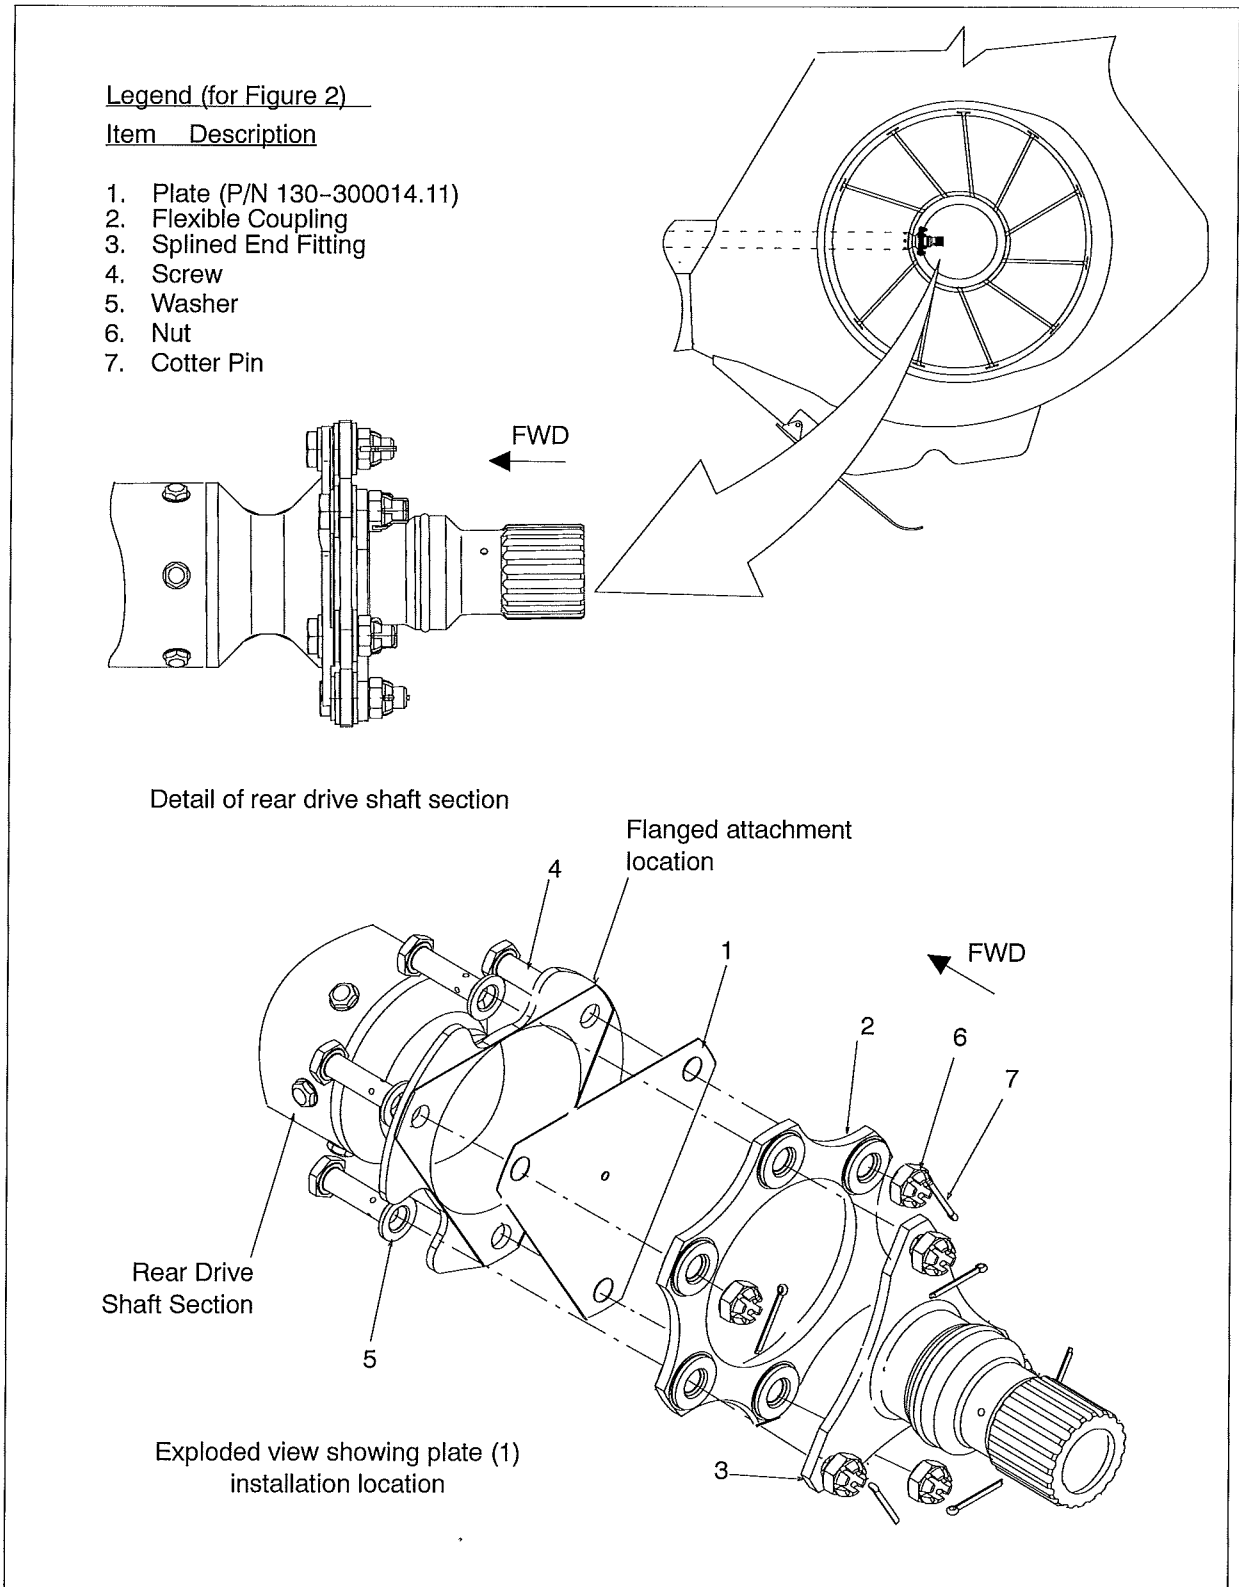

Figure 2 Rear Drive Shaft End Cap Details
- 1) REAR DRIVE SHAFT END CAP (Refer to Figure 2)
- a) Remove plate (1). Refer to Removal – Rear Shaft Section, EC 130 AMM, Chapter 65-11-00, 4-5.
- a) Replace plate (1). Refer to Installation – Rear Shaft Section, EC 130 AMM, Chapter 65-11-00, 4-6.